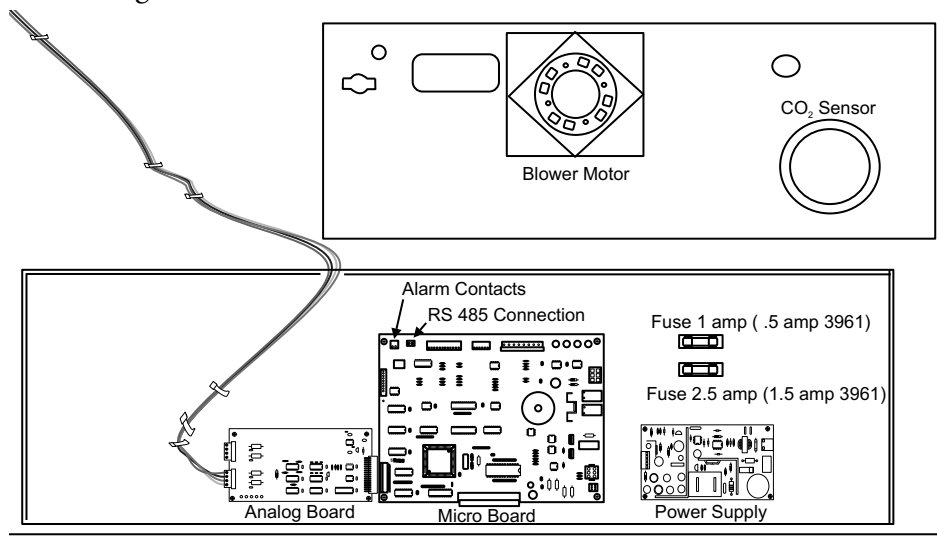

Figure 6-5. Board Location in Drawer
4. Route the wires through the auxiliary hole located on the back of the unit. See Figure 6-3 for the location of this hole and Figure 6-5 for routing details.